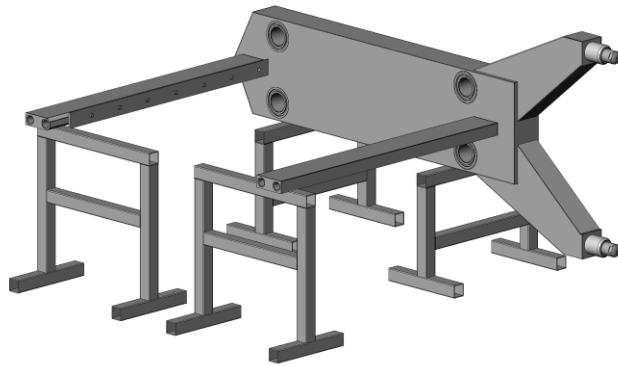

Figure 6-3
5. Position the upper rail as shown in figure 6-3 (hanger side toward the bottom rail) and loosely bolt the rail in place. Note: The bolts will be fully tightened after the end support is installed.